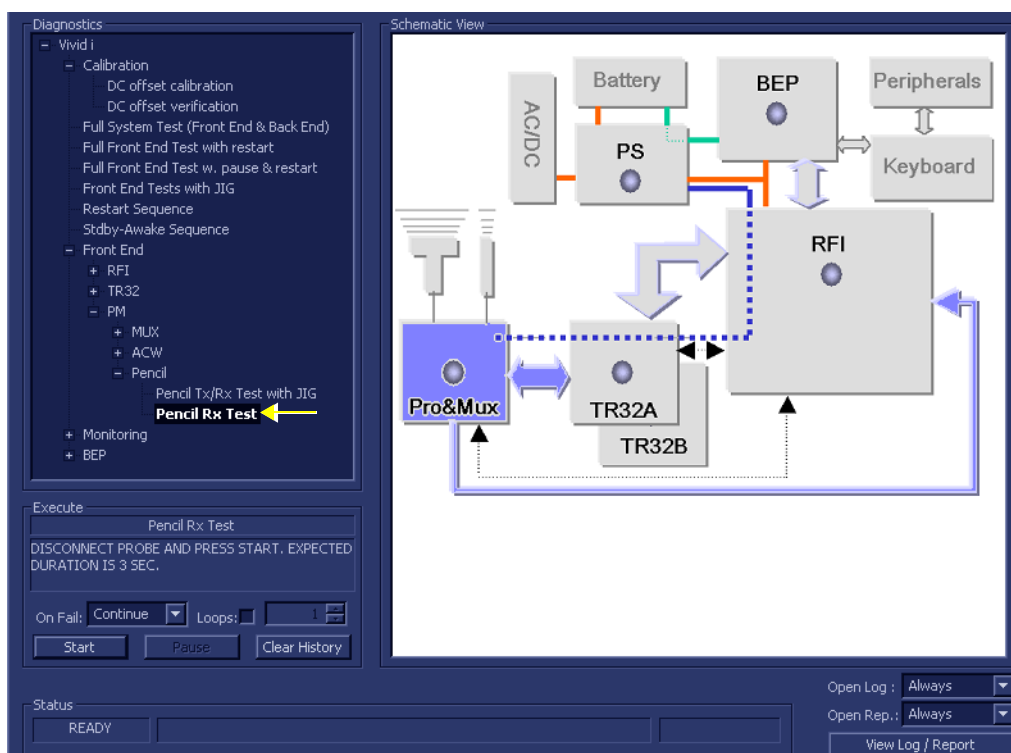

Figure 7-55 Pencil RX Test
- 1.) In the *Diagnostic Test* window, trackball to **Pencil RX Test** in the list of *Pencil* tests available for selection from the Diagnostic Test Tree (see Figure 7-55 below) and press **Set**. The Pencil RX Test name is displayed under *Execute*; the relevant system components to be tested are highlighted light blue in the Schematic View (P&M), as shown below: